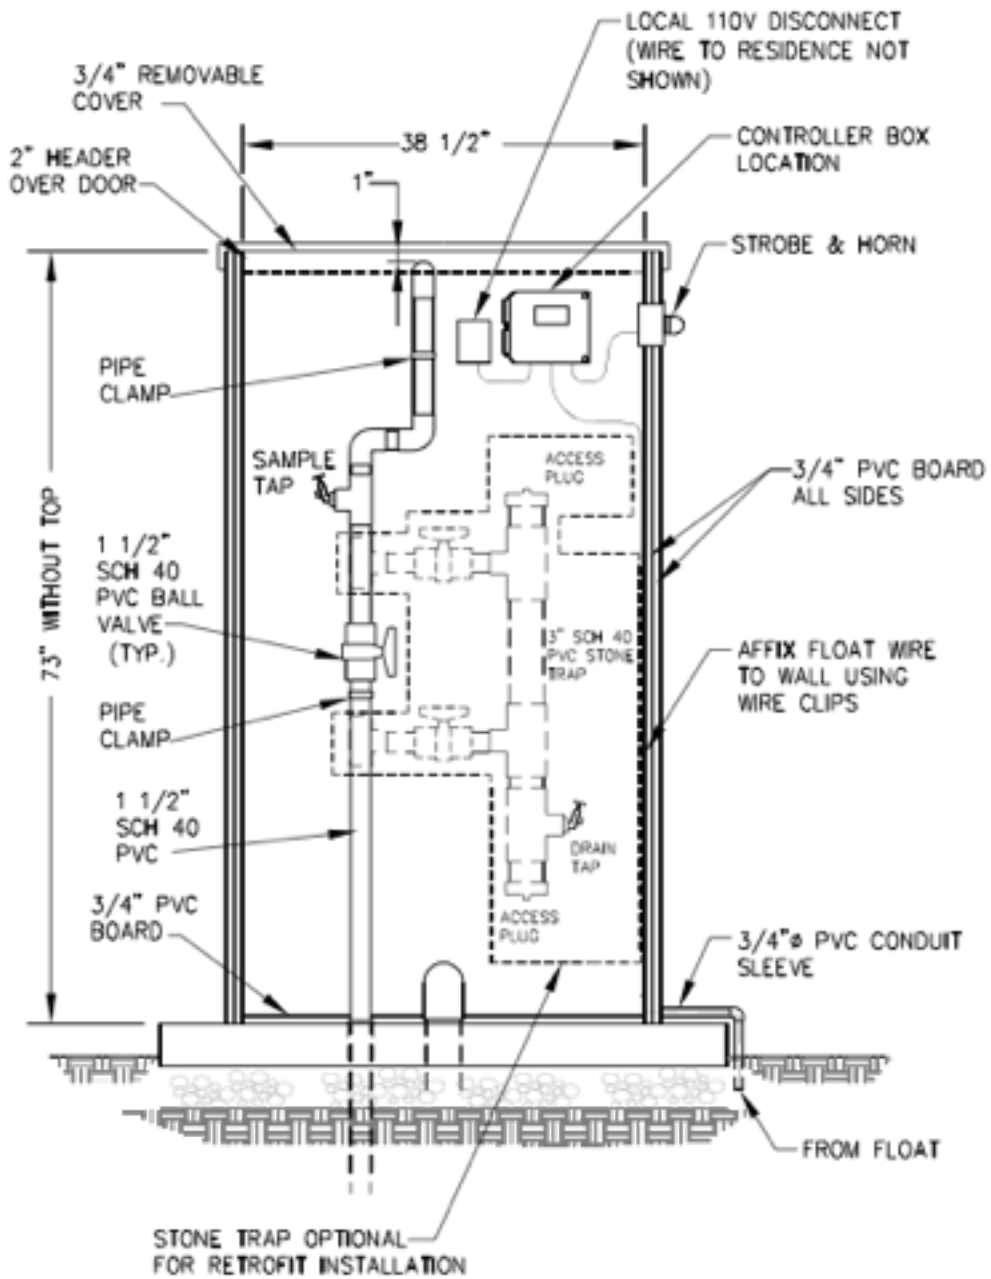

Figure 2: BioFilter Cabinet Front View Door
Step 1: Access the controller inside the door of the BioFilter Cabinet (see Figure 2). Check pump operations - check voltage and motor run amps and record on the Maintenance Report Form. If the voltage drop exceeds National Electric Code Requirements, have an electrician check the service line and pump windings.
Fully close and open all valves, located inside the door of the BioFilter Cabinet (see Figure 2), to make sure they operate correctly.
Effluent samples can be collected by opening the sample tap located on the feed pipe to the Biofilter Cabinet which is located behind the door to the cabinet (see Figure 2). Prior to sampling, the tap should be open and the flow discharged to the ground for one minute or more to remove attached biomass that will tend to grow on all wetted components and especially on components that are not used often like the sample tap. Samples should be collected in containers supplied by the analyzing laboratory. The various analytical tests require that the collected samples be preserved in different ways. Care and planning are required to assure that the proper preservative procedures are followed. If sampling is performed for government reporting requirements, many states have requirements that the sample collector be certified. Certified sample collectors may be required in your state.